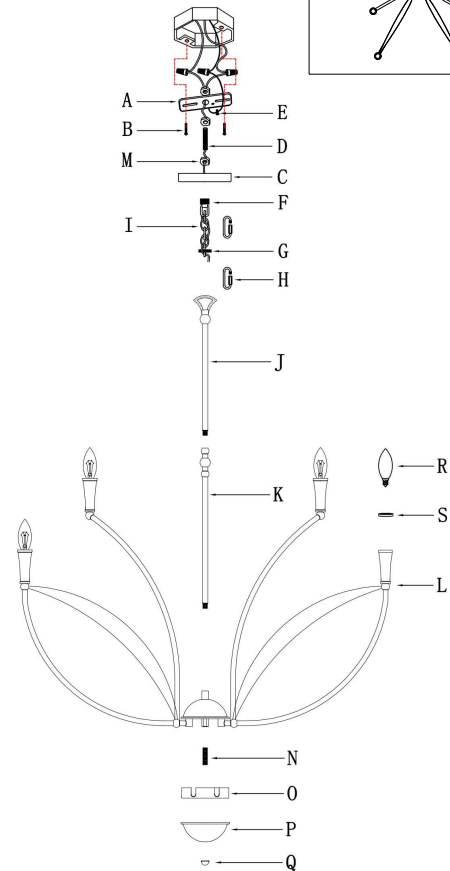

Fig. 2
CONNECTING THE WIRES (Fig. 2)
10. Connect electrical wires as shown in Fig.2, making sure that all wire connectors are secured. If your junction box has a ground wire (green or bare copper), connect the fixture's ground wire to it. Otherwise, connect the ground wire directly to the crossbar (A) using the green screw (E) provided.